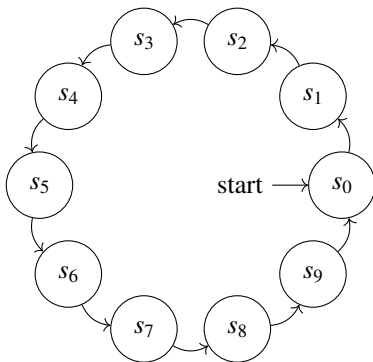

Fig. 6.1: FSM for the decade counter
1. Fig. 6.1 shows a *finite state machine* (FSM) diagram for the decade counter in Fig 5.2  $s_0$  is the state when the input to the incrementing decoder is 0 The *state transition table* for the FSM is Table 3.5, where the present state is denoted by the variables  $W, X, Y, Z$  and the next state by  $A, B, C, D$ .
For the FSM in Fig 6.1, the number of states is 9, hence the number flipflops required = 4